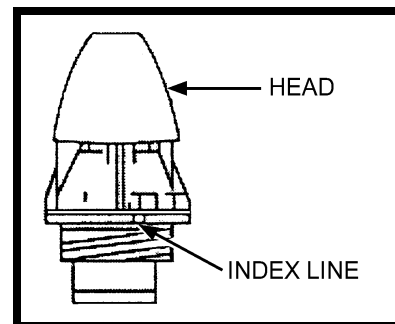

Figure 7-21. Setting the M734 multioption fuze.
d. M734 Multioption Fuze (Figure 7-21). Fuze can be set by hand by rotating the fuze head (clockwise) until the correct marking (PRX, NSB, IMP, or DLY) is over the index line.